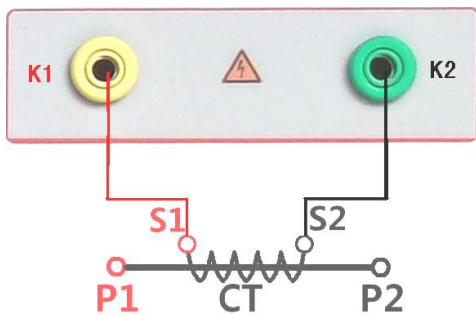

Figure 2(CT Excitation Connection Diagram)
3.1. CT Excitation Characteristic Test: the connection mode is as shown in Figure 2.